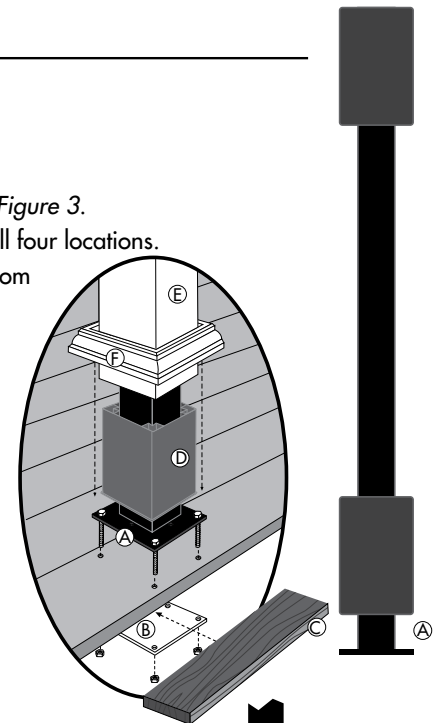

Figure 2
- 2.) Cut 2x6 (minimum) spacer block Figure 2 (C) and attach to substructure joists under post location Figure 3.
- 3.) Mark holes through bottom plate of steel post Figure 2 (A) onto deck surface – Drill 3/8" hole in all four locations.
- 4.) Push 5/16" bolts (not included) through post plate and attach separate bottom plate Figure 2 (B) from underneath deck surface (posts can be leveled as needed by using steel washers as shims).
- 5.) Replace bottom plastic spacer to original position Figure 2 (D).
- 6.) Slide Vinyl Post Jacket Figure 2 (E) over plastic spacer.
- 8.) Install base trim Figure 2 (F) around post sleeve at deck surface before installing rail.